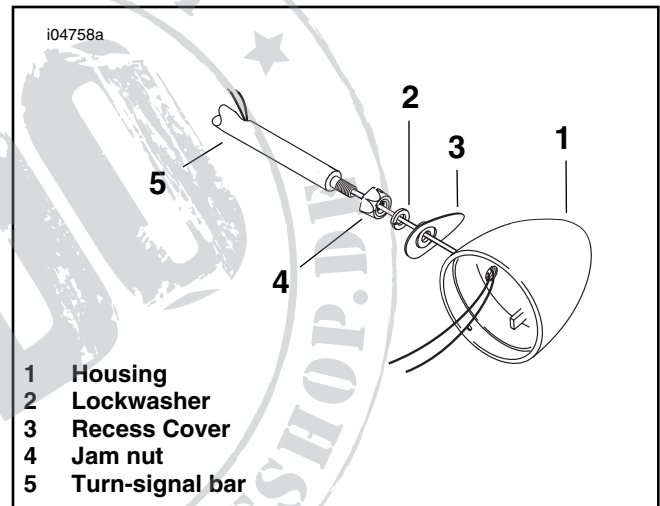

Figure 3. Turn Signal Relocation Bar
- See Figure 3. Install the chrome jam nuts (4) onto each end of the turn signal bar (5).